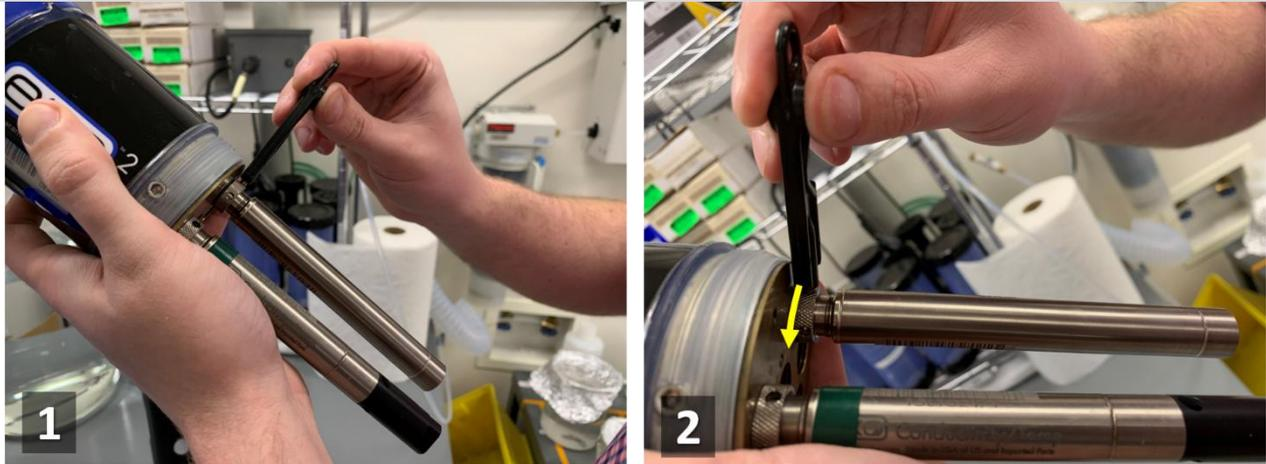

Figure 125. Use the Multisonde probe tool to remove each sensor probe from the Multisonde
**STEP 5** | Remove each Multisonde probe using the Multisonde probe removal tool (**Figure 125**). Insert the probe tool securely into the locking nut and turn it left. Over time, removing/reinstalling sensors on the Multisonde wear down/strip the locking nuts. Ensure the tool is securely in the hole before turning and try not to over-torque when removing to prevent the tool from stripping the nut.